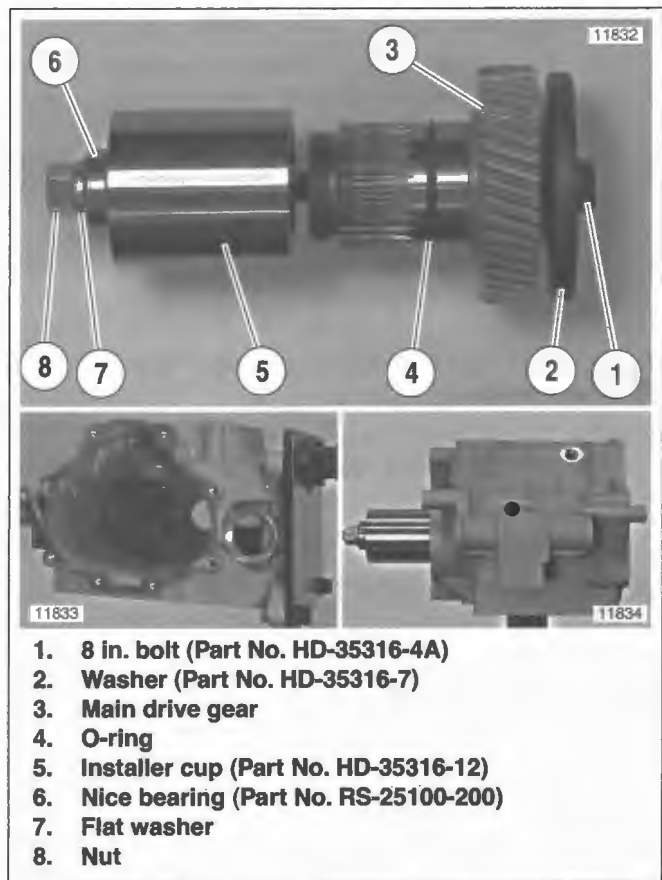

Figure 7-47. Installing Main Drive Gear-Typical
See Figure 7-47. Make sure to install **new** O-ring (4) onto main drive gear (3) and lubricate O-ring with clean engine oil before installing drive gear into transmission case.
1. See Figure 7-47. Insert 8 IN. BOLT (Part No. HD-35316-4A) (1) through WASHER (Part No. HD-35316-7) (2) and main drive gear (3). Insert assembly into transmission case, through main drive gear bearing.
2. At outside of case, place INSTALLER CUP (Part No. HD-35316-12) (5), NICE BEARING (Part No. RS-25100-200) (6), FLAT WASHER (7) and NUT (8) over end of bolt. Tighten nut until main drive gear bottoms against main drive gear bearing.